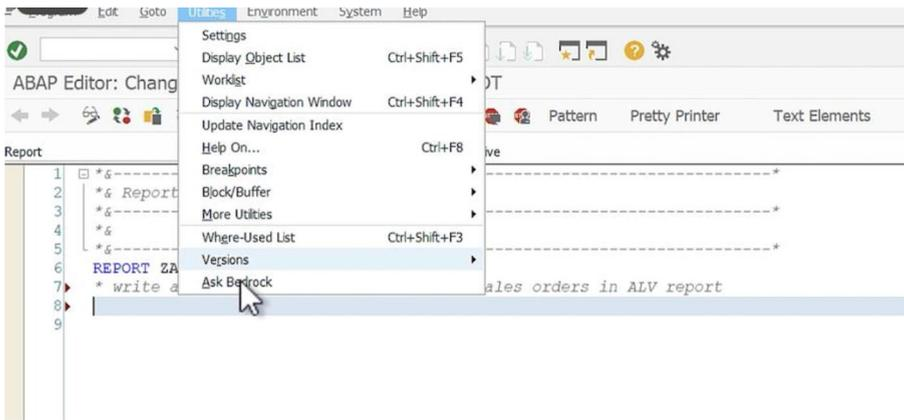

Figure 6-34. ABAP Code Assistant in ABAP Editor
2. Implement a menu exit for SE38 called 'Ask Bedrock,' as shown in Figure 6-34.